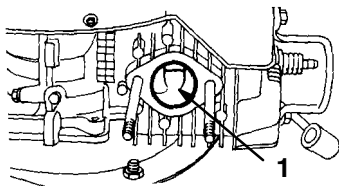

Figure 31
6. Slowly pull the recoil starter so that the piston covers the exhaust port (Fig. 31).
7. Clean the carbon from the exhaust port (Fig. 31) with a flat hardwood scraper.
8. Install the muffler with the screw, two nuts, and two lockwashers (Fig. 31).